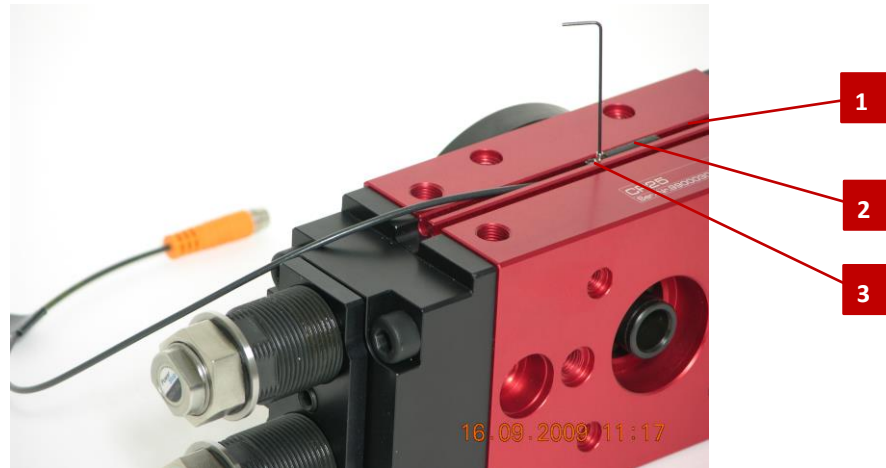

Fig. 16 Illustration of magnetic field sensors
1. Insert the sensor (Fig. 16, 2) with the mounted slot nut into the C-slot.
6. Securely fasten the sensor with the fastening screw (Fig. 16, 3).